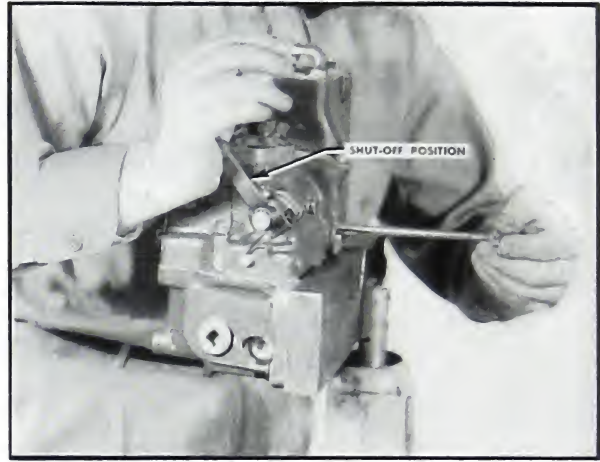

Fig. 5-365. Assemble zero stop screw
2. Assemble zero stop screw and locknut to shutdown lever through fuel stop hole. Fig. 5-365.